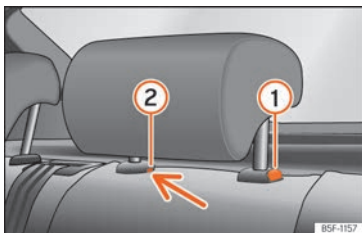

Fig. 97 Rear head restraint: removal.
- Press button **>>>** Fig. 97 ①, while simultaneously pressing on the safety hole ② with a flat screwdriver a maximum of 5 mm wide, and remove the headrest.